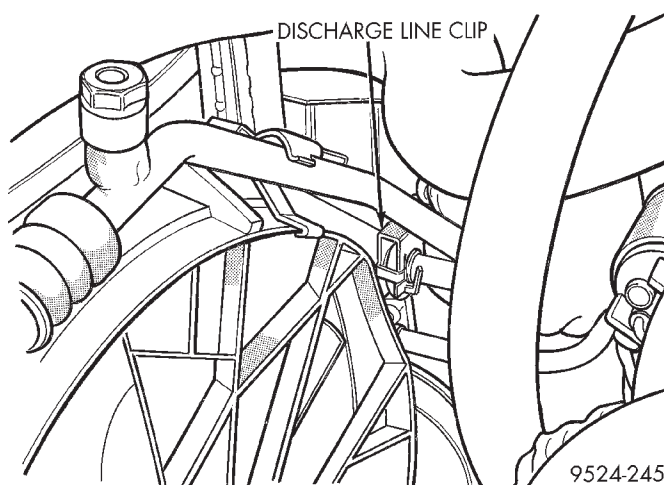
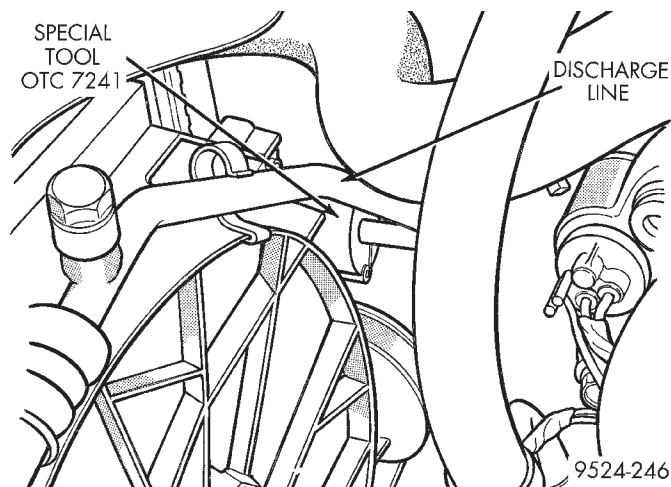

**Fig. 32 Quick Connect Clip**
**Fig. 33 Special Tool For Line At Condenser**
(1) Remove refrigerant from the A/C system using a refrigerant recovery machine.
(2) Disconnect A/C pressure transducer wire harness.
(3) Remove quick connect clip and disconnect quick connect at condenser using Special Tool kit 7193 (Fig. 32) and (Fig. 33).